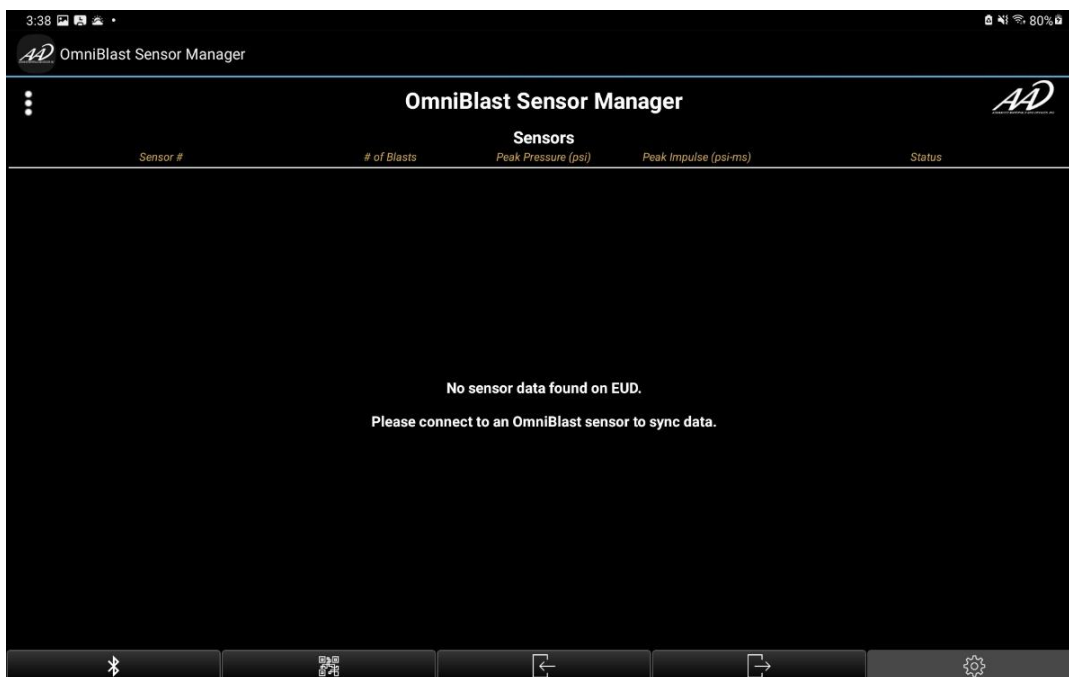

Figure 3. Main page of the OSM on a new installation.
5. Once downloaded, open the OSM and the main page will appear (**Figure 3**).
To scan for nearby OmniBlast™ sensors, select the Bluetooth button in the bottom left corner of the user interface (Seen in **Figure 3**). If OmniBlast™ sensors are found, they are displayed tabularly (**Figure 4**).